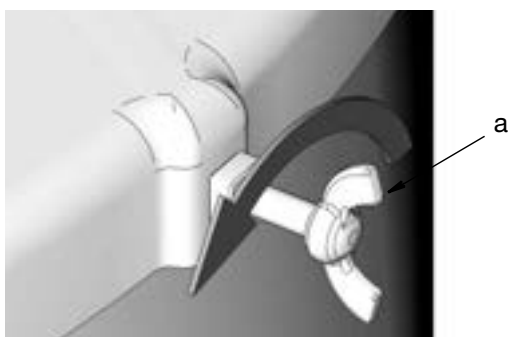

FIG. 5
- Remove drum cover by loosening thumb screws (a) (FIG. 5).